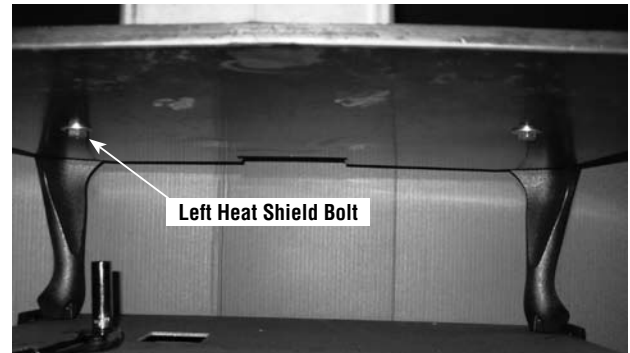

Figure 26
Step 1. Using a 9/16" wrench or socket loosen the left heat shield bolt. This bolt is located on the bottom side of the leg heatshield as shown. See **Figure 26**.